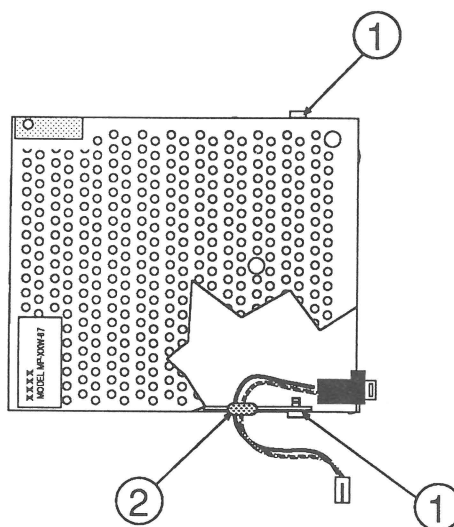

FIGURE 8
2. Remove the two Phillips screws (Figure 8, #1) that secure the disk drive top shield to the bottom shield.
4. Remove the eject button wires and grommet (Figure 8, #2) from the bottom shield.